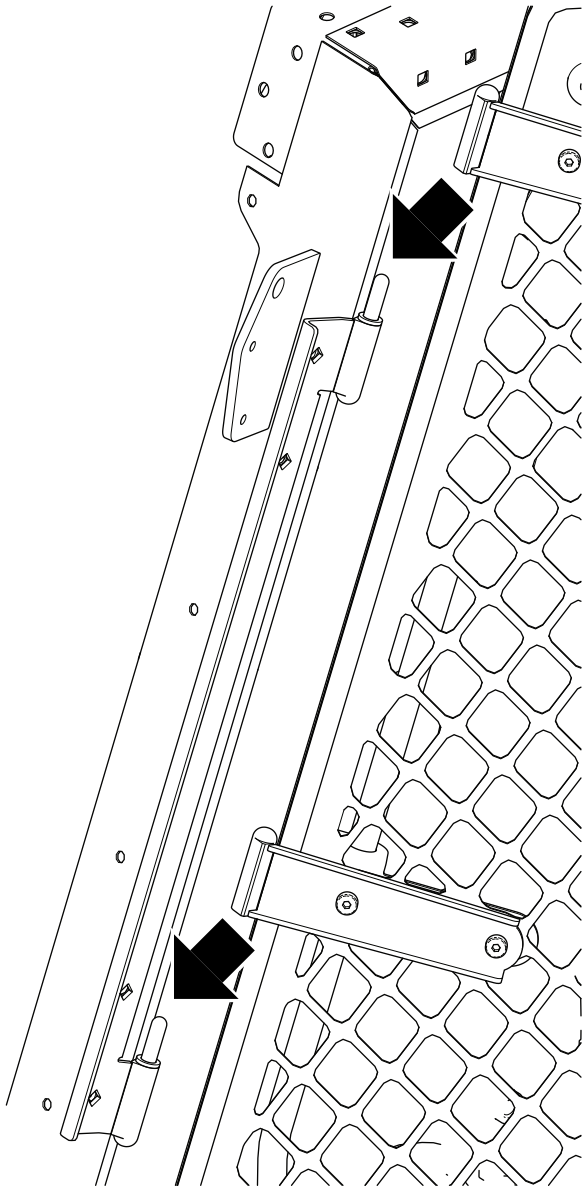

Figure 6
7. Use button-head screws (5/16 x 3/4 inch) and flange nuts (5/16 inch) to install the left door-mount assembly and the right door-mount assembly (Figure 4 and Figure 6).
9. Install each door by sliding the hinges onto the hinge pins (Figure 6).